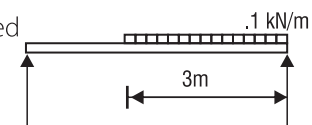

Figure 4.30
- A simple beam 5 m long has a uniformly distributed load of 1 kN per metre extending over a length of 3 m from the right-hand reaction (**Figure 4.30**). Calculate the magnitude of the reactions. [0,9 kN; 2,1 kN]